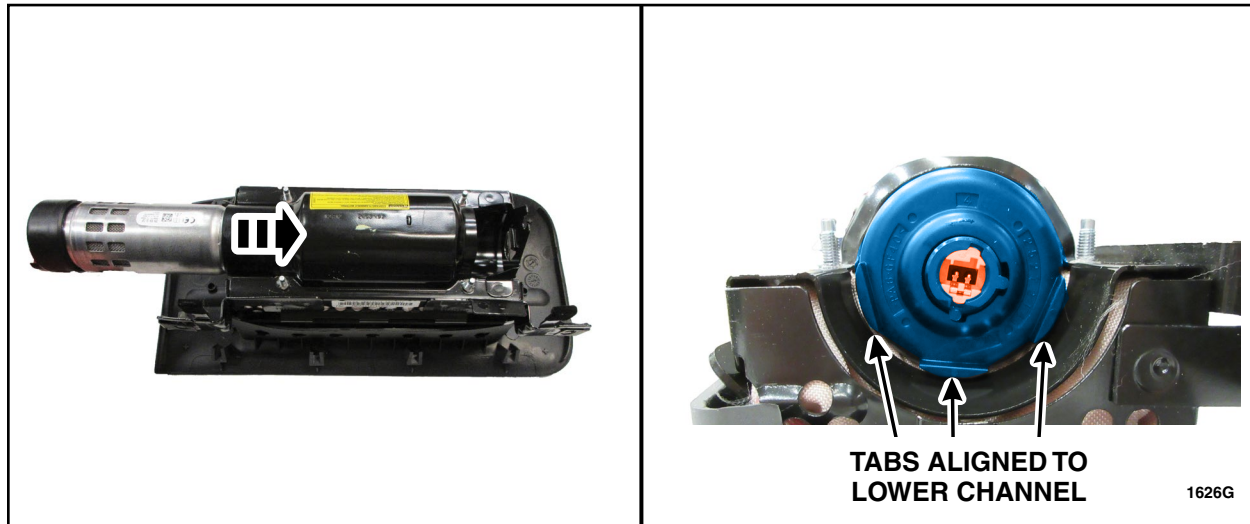

FIGURE 8
11. Install the inflator into the passenger airbag assembly with the orange connector end facing out. Align the three tabs on the cap nearest the inflator retaining bracket with the airbag module lower channel (facing down). See Figure 8.